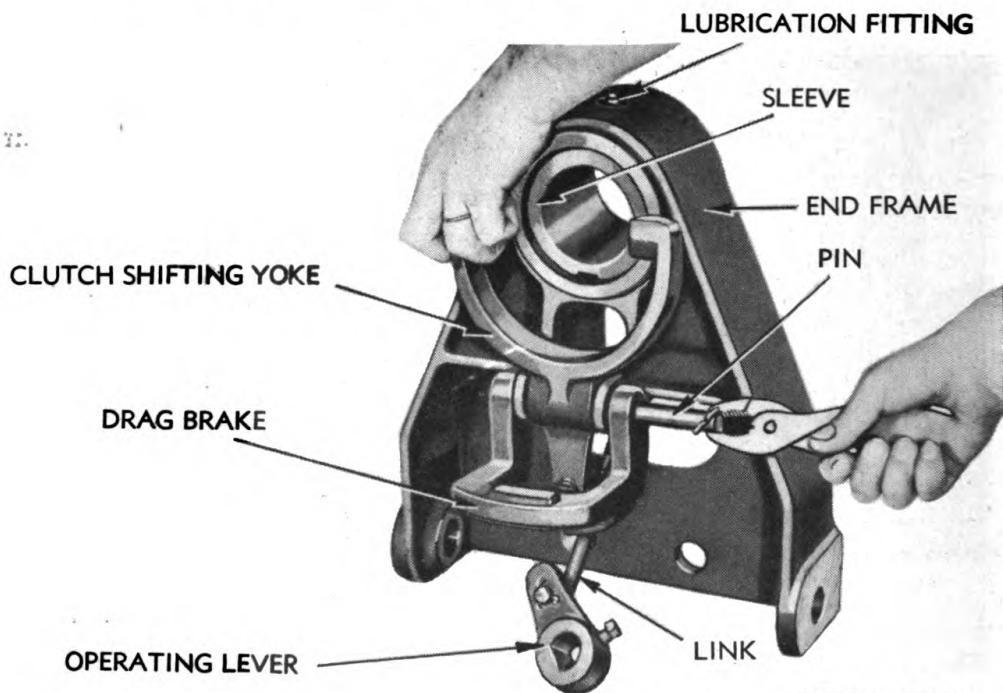

Figure 123 — Removing Clutch Yoke Pin
j. **Disassemble End Frame** (fig. 123). Pull cotter pin from one end of clutch shifting yoke pin, pull pin from clutch yoke and end frame, and remove yoke. Pull cotter pin and remove operating lever from yoke link. Remove lubricating tube and nipple from sleeve in end frame through hole in top of end frame and slip sleeve out of end frame. Tap dowel pin out of end frame.
j. **Assemble and Install End Frame on Drum Shaft** (fig. 123). Tap dowel into lower side of hole in end frame. Insert sleeve into end frame with slot in sleeve registering with dowel. Install nipple for lubricating fitting in hole in upper side of sleeve. Install shifting yoke and drag brake on end frame with clutch yoke pin. Secure pin with cotter pin. Install short operating lever and link on shifting yoke; secure with cotter pins. Slide thrust ring and jaw clutch close to end of shaft. Install end frame assembly onto shaft, engaging shifting yoke in groove of sliding clutch as end frame is raised to slip onto end of shaft (fig. 126).